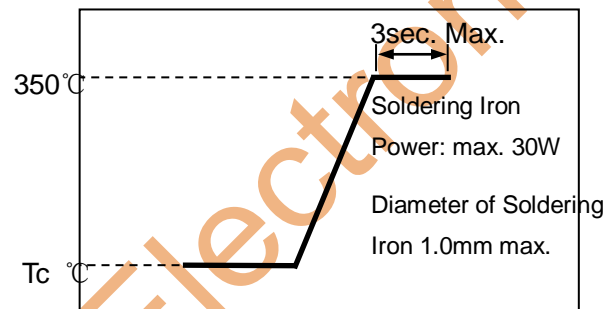

Fig. 10.2-1.
- Please refer to **Fig. 10.2-1**.